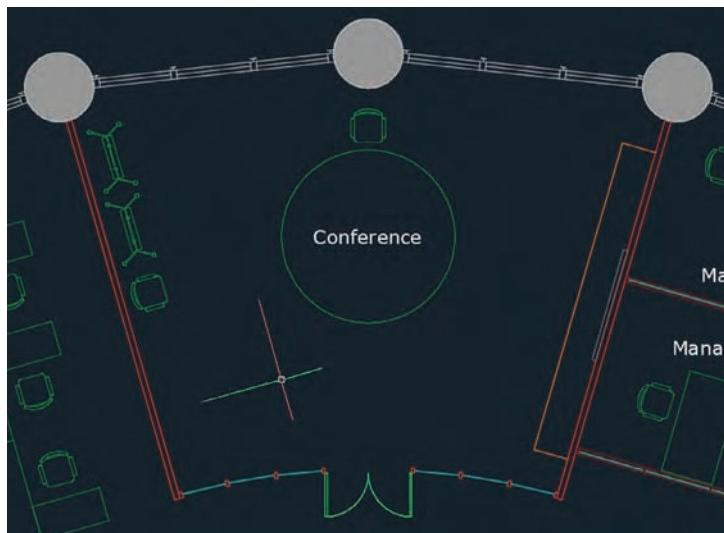

FIGURE 4.13 Reorienting the UCS to an object
10. Pan over to the Conference room. Type **UCS** and press Enter. Select the Object option by clicking Object on the command prompt. Select the inner-left wall line and watch as the crosshair cursor changes to parallel the angle of the wall (see Figure 4.13).